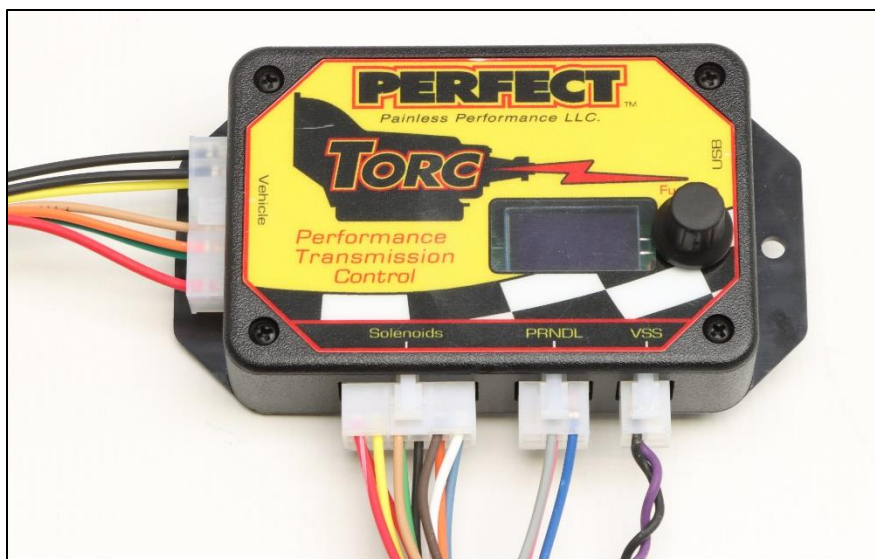

Figure 2 –Connections on TORC Module
1. The Vehicle Harness has a 16 pin connector that plugs into the left side of the TORC Module. See Figure 2 on page 8 for the connection. See Diagram 3 on page 15 for a diagram identifying the wires in this connector.